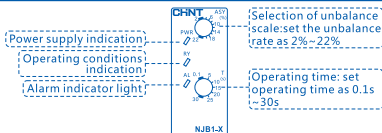
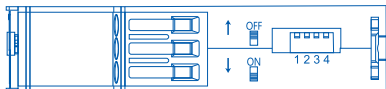
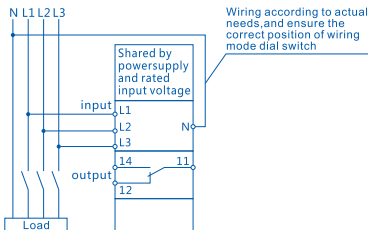
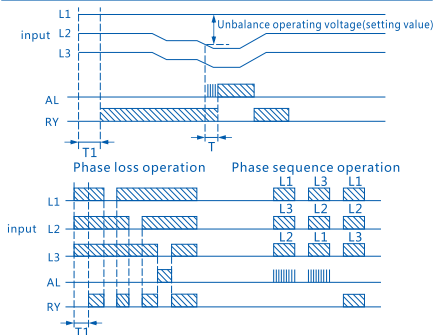

Figure 2 Panel Diagram
Figure 3 Selection Switch Position Diagram
Figure 4 Wiring Diagram
Figure 5 Working Sequence Diagram
3.2 Panel diagram: see Figure 2; selection switch position diagram: see Figure 3; working mode setting: see Table 5, Table 6; wiring diagram: see Figure 4; working sequence diagram: see Figure 5.